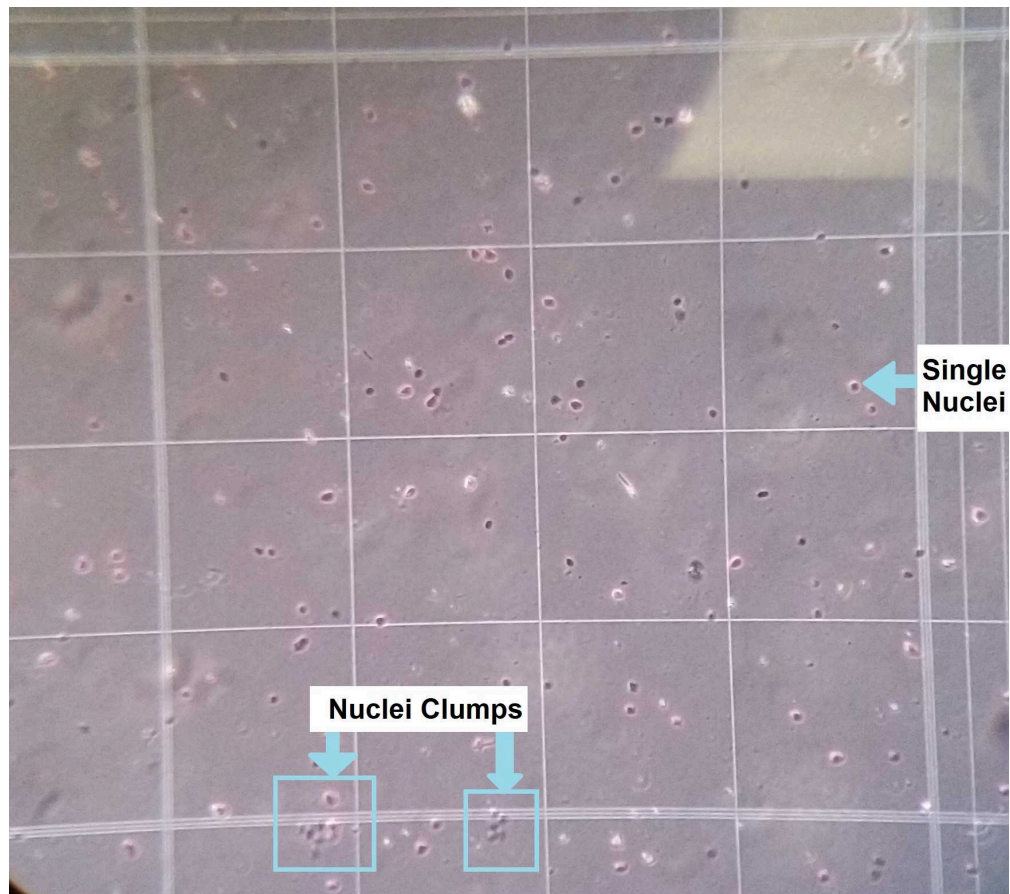

Figure 4. A 10x objective view of what a single nuclei versus a nuclei clump looks like on a hemocytometer.
- 32 Remove the nuclei-containing solution from the LoBind tube and transfer it to a 1.5 mL Eppendorf tube (pre-coated with BSA the day before)  On ice . Place the sample  On ice . Use 500uL of ice-cold 1X PBS to rinse out each tube and place that liquid into your corresponding pre-coated BSA tube, as well (final volume of nuclei solution will be 1mL)  On ice . Check and count the nuclei with a hemocytometer by adding 10uL of sample into a new 1.5mL Eppendorf tube and mixing it with 10uL of Trypan Blue (see **Figures 4 and 5**).